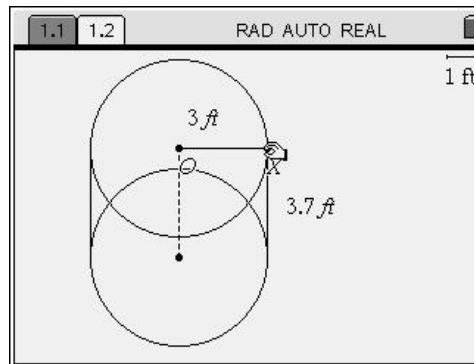

Figure 18
18. Test the cylinder to see if everything is working correctly. Move the cursor to pt. X until it becomes an open hand. Center click CLICK & hold until the hand closes. (Figure 18) Adjust the radius to be 3 ft. Press ESC to let go of the radius pt. Move to the center point of the bottom circle. Repeat the above procedure to adjust the height of the cylinder to 5 ft. (If you did not hide point Y, you will not be able to get the open hand cursor and grab the center point of the bottom circle.)